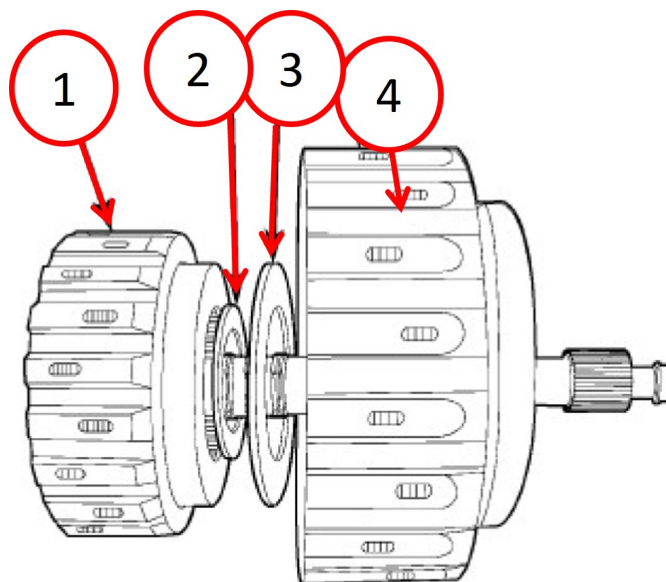

Fig. 7
10. Remove the K2 clutch assembly and the selectable input shaft end-play thrust bearing number one and thrust washer from the K1 clutch/input shaft assembly Fig. 7.